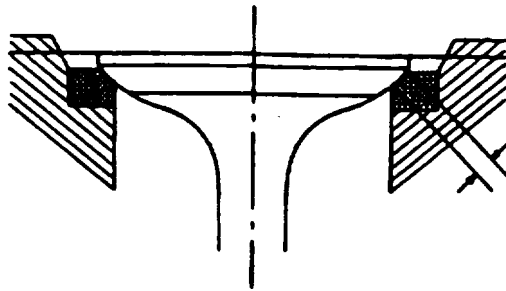

FIGURE 3-70. Checking Valve Contact Width
- (1) Check valve contact faces for roughness and unevenness. Smooth contact surfaces as necessary.
- (2) Using blue bearing dye (HISPOTBLUE 107), coat valve seat insert. Install valve and rotate valve to pickup chalk on valve.
- (3) Measure valve contact width. Refer to FIGURE 3-70. Standard width is 0.05 to 0.06 in. (1.2 to 1.5 mm), with a limit of 0.08 in. (2.0 mm).
- (4) If measured value exceeds limit, replace valve seat insert.